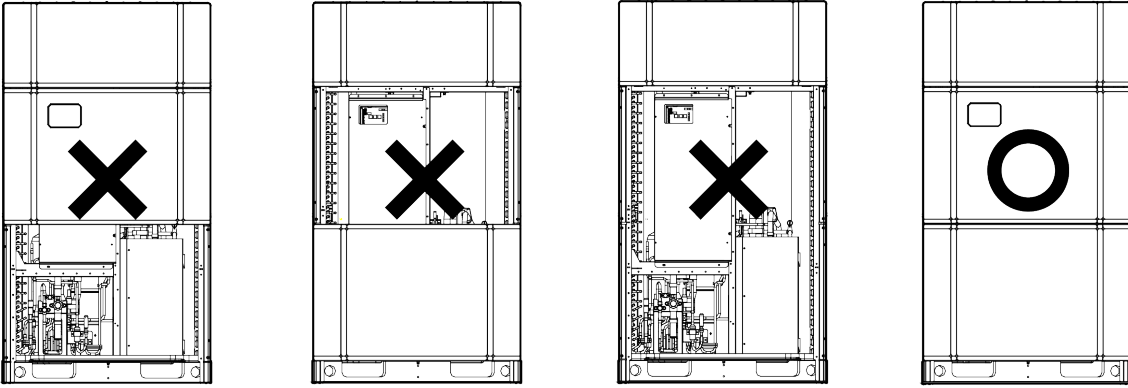

Fig.4.2.2
- (2) When starting up the debugging, the system automatically selects the operating mode according to the current ambient temperature.
- (3) When debugging, the front panel of the outdoor unit must be completely closed, otherwise it will affect the accuracy of debugging (as shown in the Fig.4.2.2 as below).